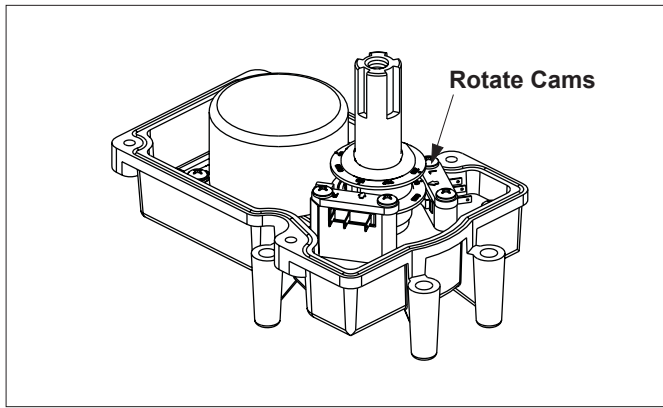

Figure 11. JVA Cam Adjustment
- To set the cams, rotate the cam(s) until the arrow mark on the cam(s) align with the microswitch actuator (see Figure 11).